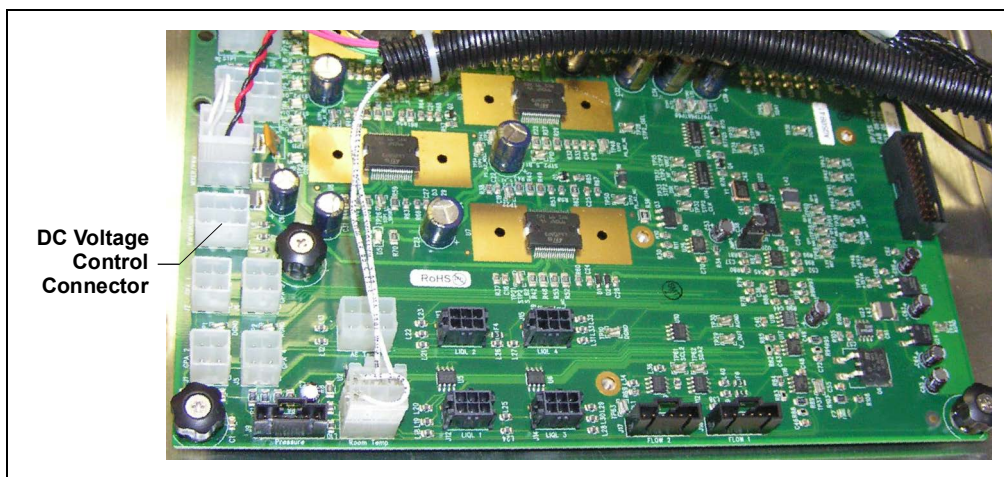

Figure 3-35. Main SP Electronics Board: DC Voltage Control Connector
4. Locate the connector labeled **VarVoltage** on the left side of the main SP electronics board (see Figure 3-35).